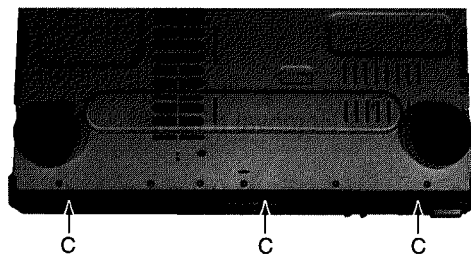

Fig.2
- 2.Remove 3 screws C on the bottom side and 3 screws D on the top side.(Fig.2,3)